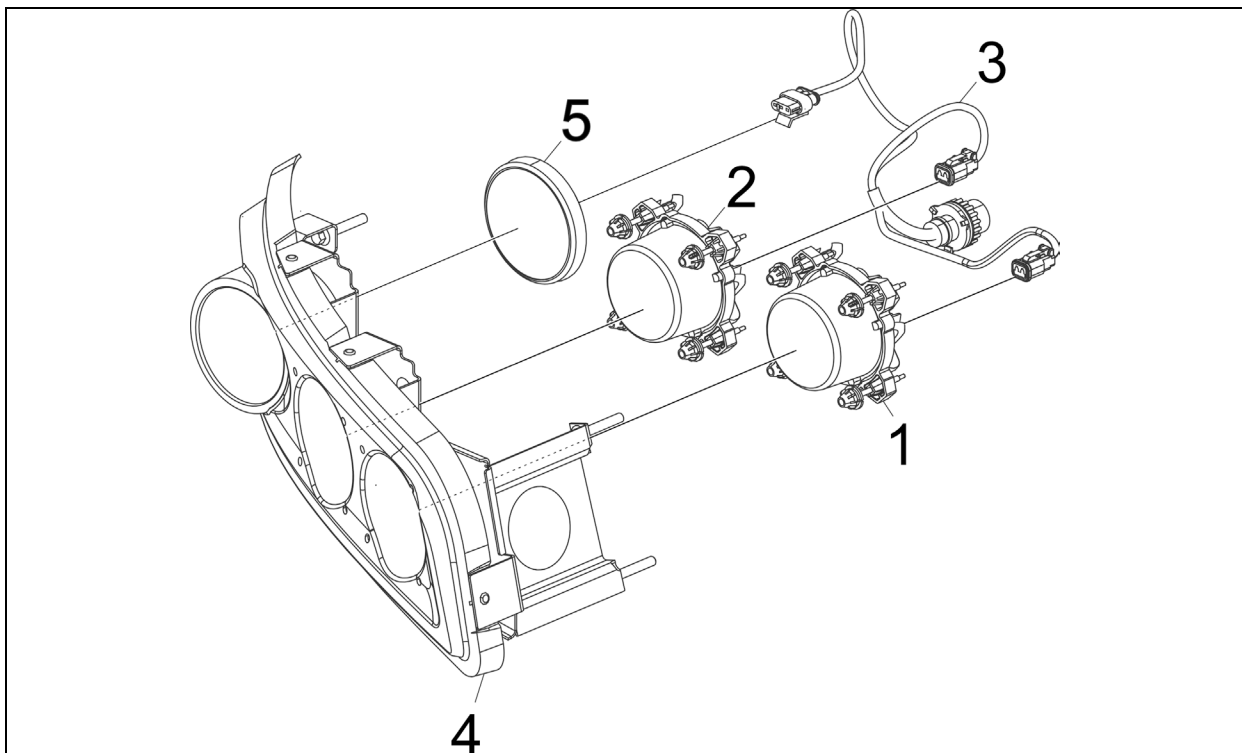

Figure 1
- 1) LOW BEAM LED p/n 24224438-NS stamped with "8459" (item 2, Figure 1). Insert adjuster screws in mounting bracket from back with ball facing front and side labeled "top" facing up. Press in by hand until adjuster snaps into housing.
- 2) Snap low beam clips into mounting holes on RH & LH headlamp bezel (item 4, Figure 1)
- 1) Proceed similarly with the high beam p/n 24224437-NS stamped with "8458" (item 1, Figure 1).